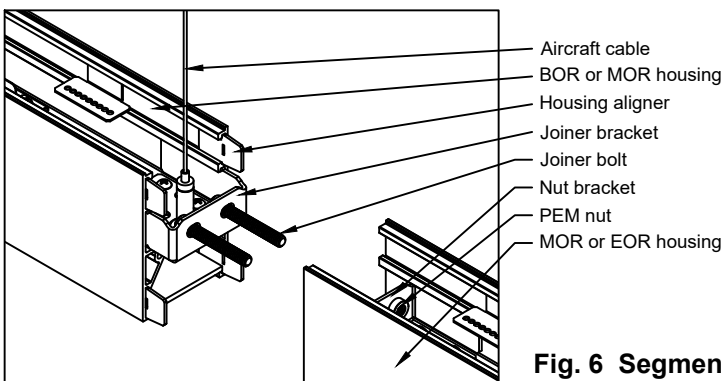

Fig. 6. Segment joining
3. Aim joining bolt to PEM nut of adjacent section (see Fig. 6). Engage bolt with nut with a few threads. Repeat the same with another bolt/nut. Make sure adjacent housings are aligned properly. Adjust housing height if necessary.